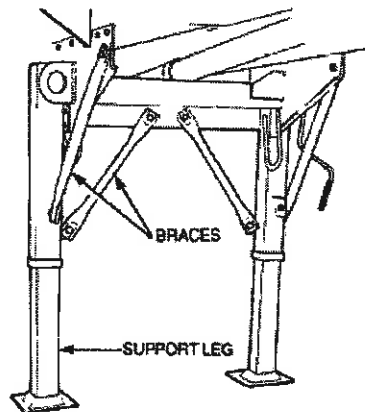

Figure 45 Support Leg and Support Braces
- c. Remove the bolts, nuts and washers securing the two support leg braces from each brace and the mounting plate on the support leg (Figure 45).